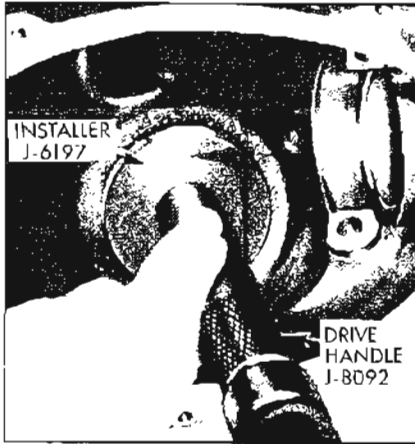

Figure 6-17—Installing Rear Pinion Bearing Outer Race
1. If rear pinion bearing is to be replaced, install new outer race using Installer J-6197 with Driver Handle J-8092. See Figure 6-17.